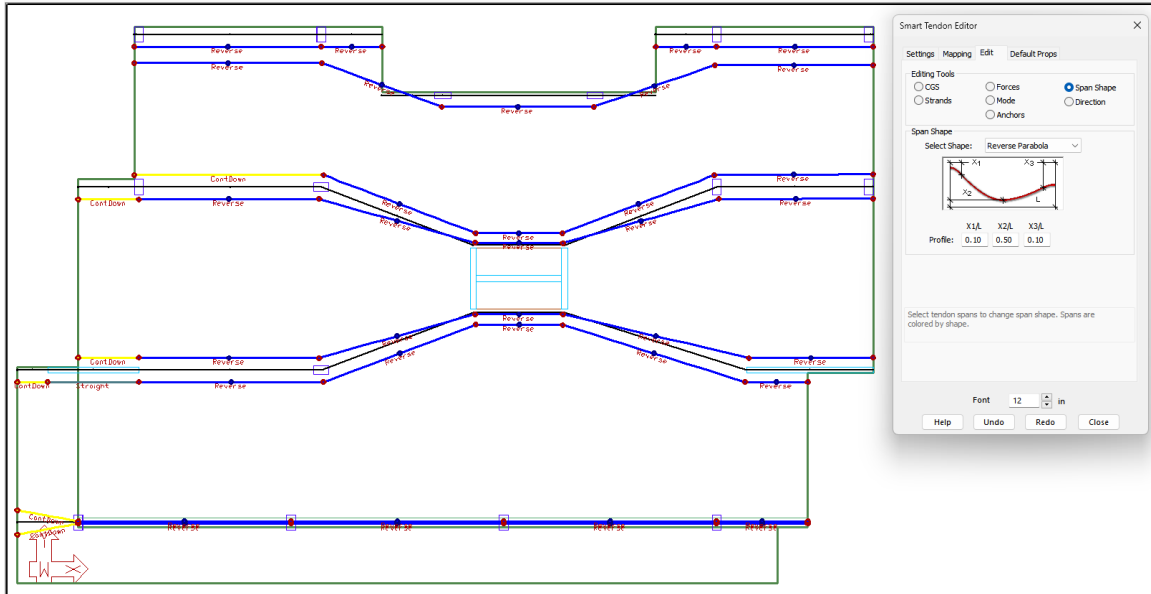

FIGURE 9-58
- Select the radio button next to **Span Shape**. Your model should now look as shown in **FIGURE 9-58**.